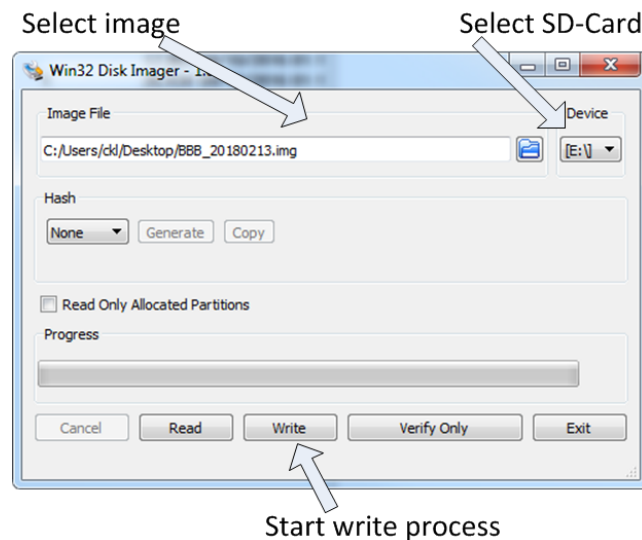

Figure 14: GUI of Win32DiskImager
3. Writing the image to the micro-SD card using the tool Win32DiskImager or similar. This tool can be downloaded from following location: <https://sourceforge.net/projects/win32diskimager/files/latest/download?source=navbar>. The program settings can be found in Figure 14.